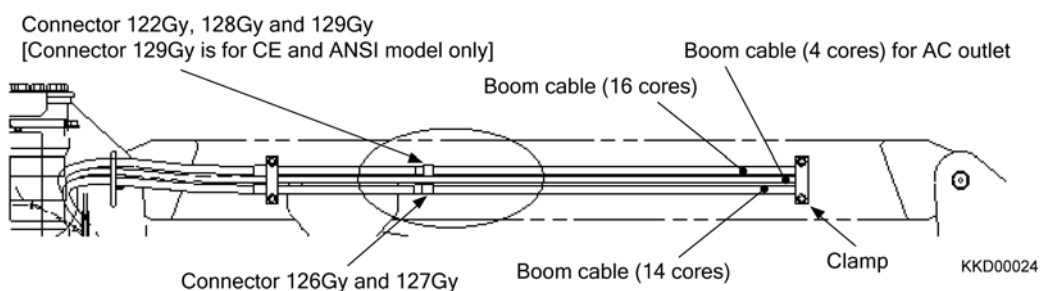

Fig. 2-53
- 4) Disconnect the boom cables (14 cores: Connector 126Gy, 127Gy) and (16 cores: Connector 122Gy, 128Gy, 129Gy). (Fig. 2-53)